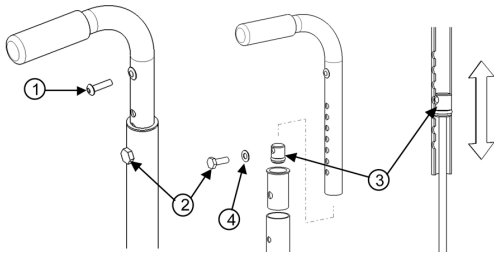

Fig. 12
- Loosen the screw (1) (Fig. 12) that holds the back upholstery.
- Pull backrest upholstery down several centimeters in order to access screw (2) that holds the push handle.
- Remove screw (2) and the backrest handle.
- To adjust the backrest height, with the help of a threaded rod ( $\frac{1}{4}$ "-20), move the dowel nut (3), which is located inside the handle.
- Once this step is completed, use screw (2) to hold the dowel nut (3) while removing the threaded rod.
- Remove screw (2) and reinstall backrest handle.
- Align screw (2) with the mounting hole.
- Reinstall and tighten screw (2) and the washer.
- Reinstall the backrest upholstery with screw (1) and tighten to fit snugly.